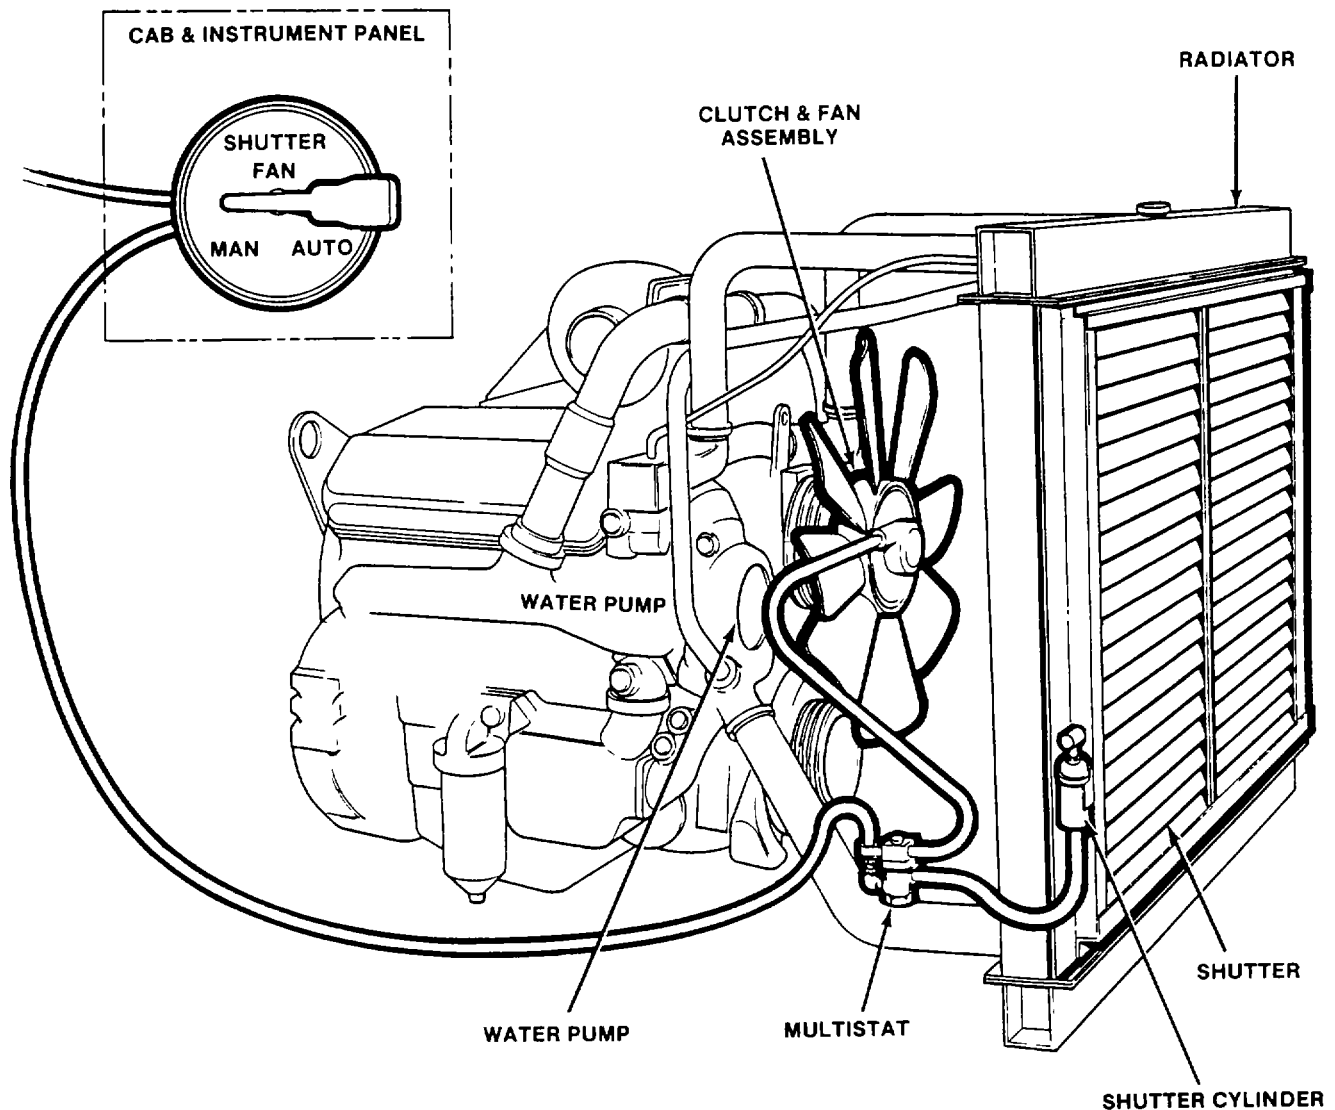

Figure 1-23. Radiator Fan and Shutter System
b. Fan and Shutters The ambient air flow through the radiator removes heat from the coolant circulated through the core. To maintain optimum engine operating temperature, the air flow is controlled. The shutters and fan providing this control are automatically engaged by the multistat, (see fig. 1-23). When the engine is started, compressed air is provided to close the shutters and to disengage the fan clutch. With the fan not operating and no flow of ambient air through the radiator the cooling system heats up rapidly. When the coolant reaches operating temperature the multistat shuts off air pressure to the shutter cylinder. This causes the shutters to open. When the flow of air through the radiator is insufficient to dissipate the heat, the multistat shuts off air pressure to the fan clutch and it engages. Increased ambient air flow through the radiator thereby reduces the coolant temperature. The system temperature is maintained within a range of 5 to 6 deg. F (2.5 deg. to 3 deg. C). The automatic control of the fan and shutters can be manually disengaged by an override control provided in the cab. When operated, air flow to the multistat is shut off, thus the shutters are open and the fan engaged.